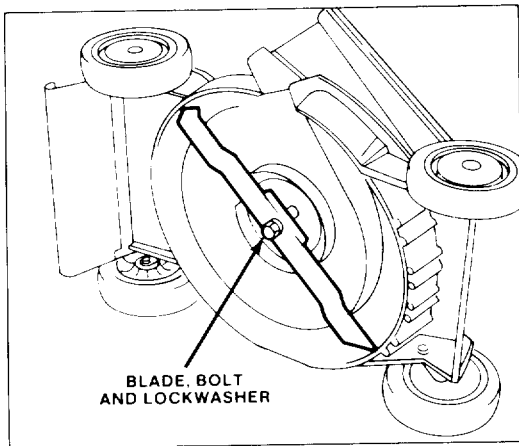

Figure 12
3. Tip mower on its left side (Fig. 12).
5. REMOVING BLADE — Grasp end of blade using as rag or thickly padded glove. Remove blade bolt, lockwasher and blade (Fig. 12).